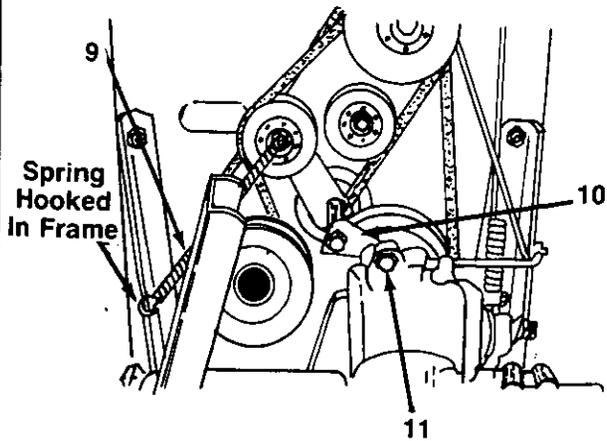

FIGURE 4.
5. Unhook the idler spring from the rider frame. See figure 4.
6. Remove the hex bolt, nut and lock washer at the torque rod bracket and transaxle. See figure 4.